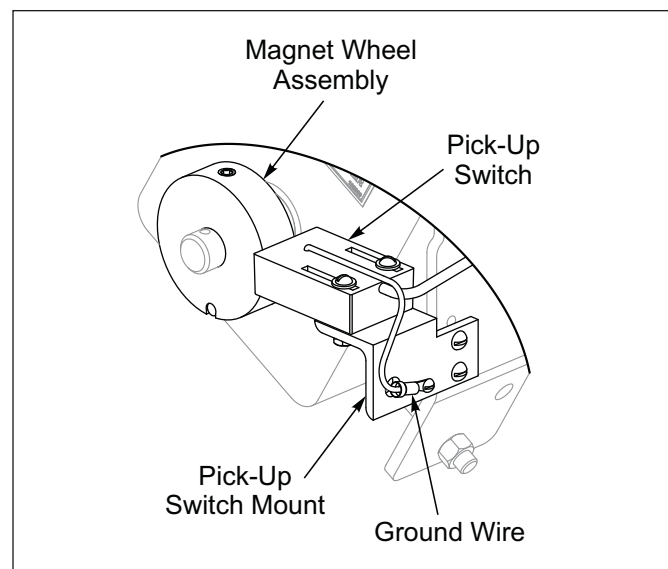

Figure 2-39: Pick-Up Switch Ground Wire
7. Attach the short Pick-Up Switch ground wire to the small hole in the Switch Bracket with a #6-32 x 1/2" machine screw, removing paint under the wire connector to assure a good electrical ground connection. **See Figures 2-39.**